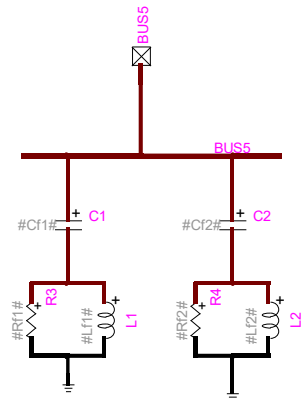

Figure 2: STATCOM filter
- **Filter rated power:** STATCOM high pass filter rated power (see Figure 2)